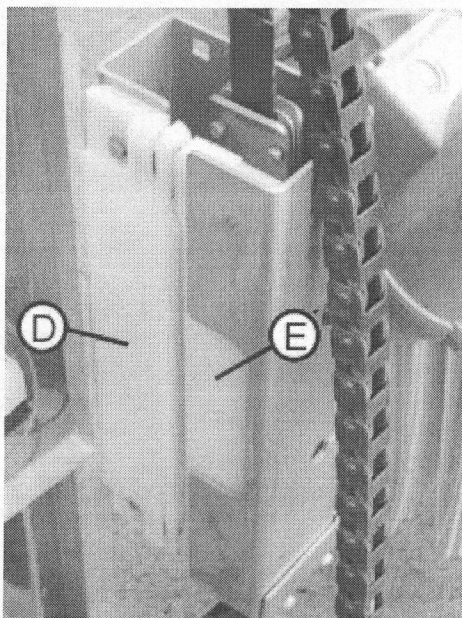

Fig. 050
5. Swivel roof brush aside on the relevant side and dismantle sliding blocks (D) and (E) (Fig. 050)
6. Mount new sliding blocks on running wagon. Make sure that the screws of the sliding block (E) are secured with removable assembly adhesive (Fig. 050).